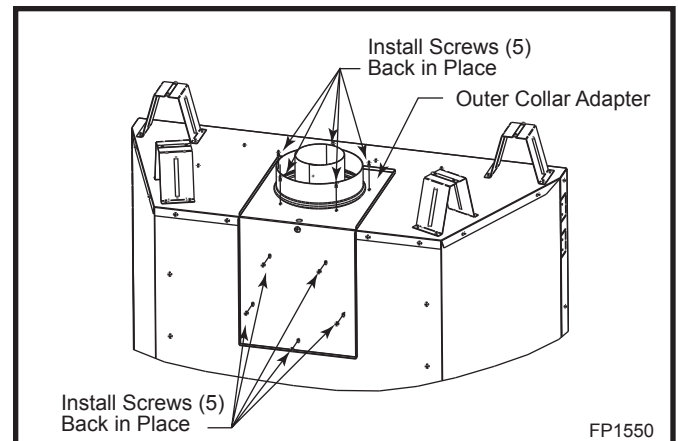

Fig. 14 Completed conversion.
7. Secure outer collar adapter to unit with the round collar on top, secure with 10 screws. (Fig. 14)